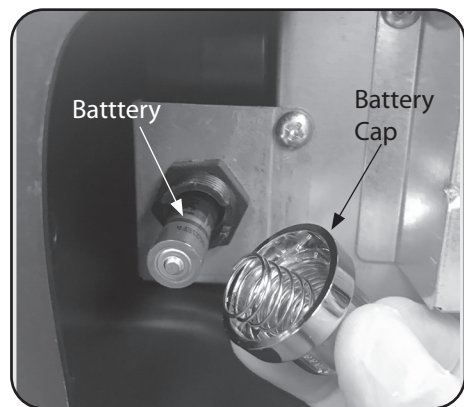

Figure 2
1. Installation of one (1) AAA battery is required for electronic ignition operation **(If Equipped)**. Battery cap is located on bottom panel of heater. See Figure 2.
1. Installation of one (1) AAA battery is required for electronic ignition operation (**If Equipped**). Battery cap is located on bottom panel of heater. See Figure 2.